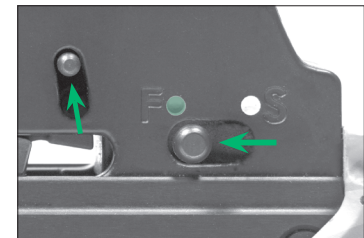

FIGURE 14
1. Push and Hold the Cocking Preparation Switch up (Fig. 14).
2. While holding the Cocking Preparation Switch, slide the safety switch from the ON SAFE position to the FIRE position (Fig. 14).